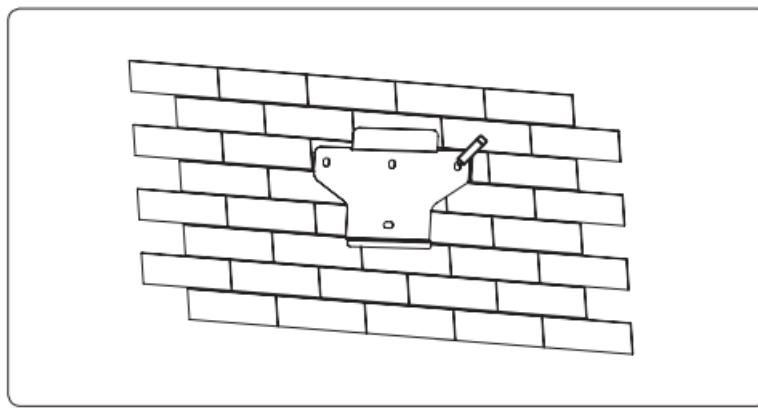

Figure 4-5 Marking hole position using installation bracket
1. Use the wall bracket as the template to mark the position of 4 holes on the wall. See Figure 4-5 for details: